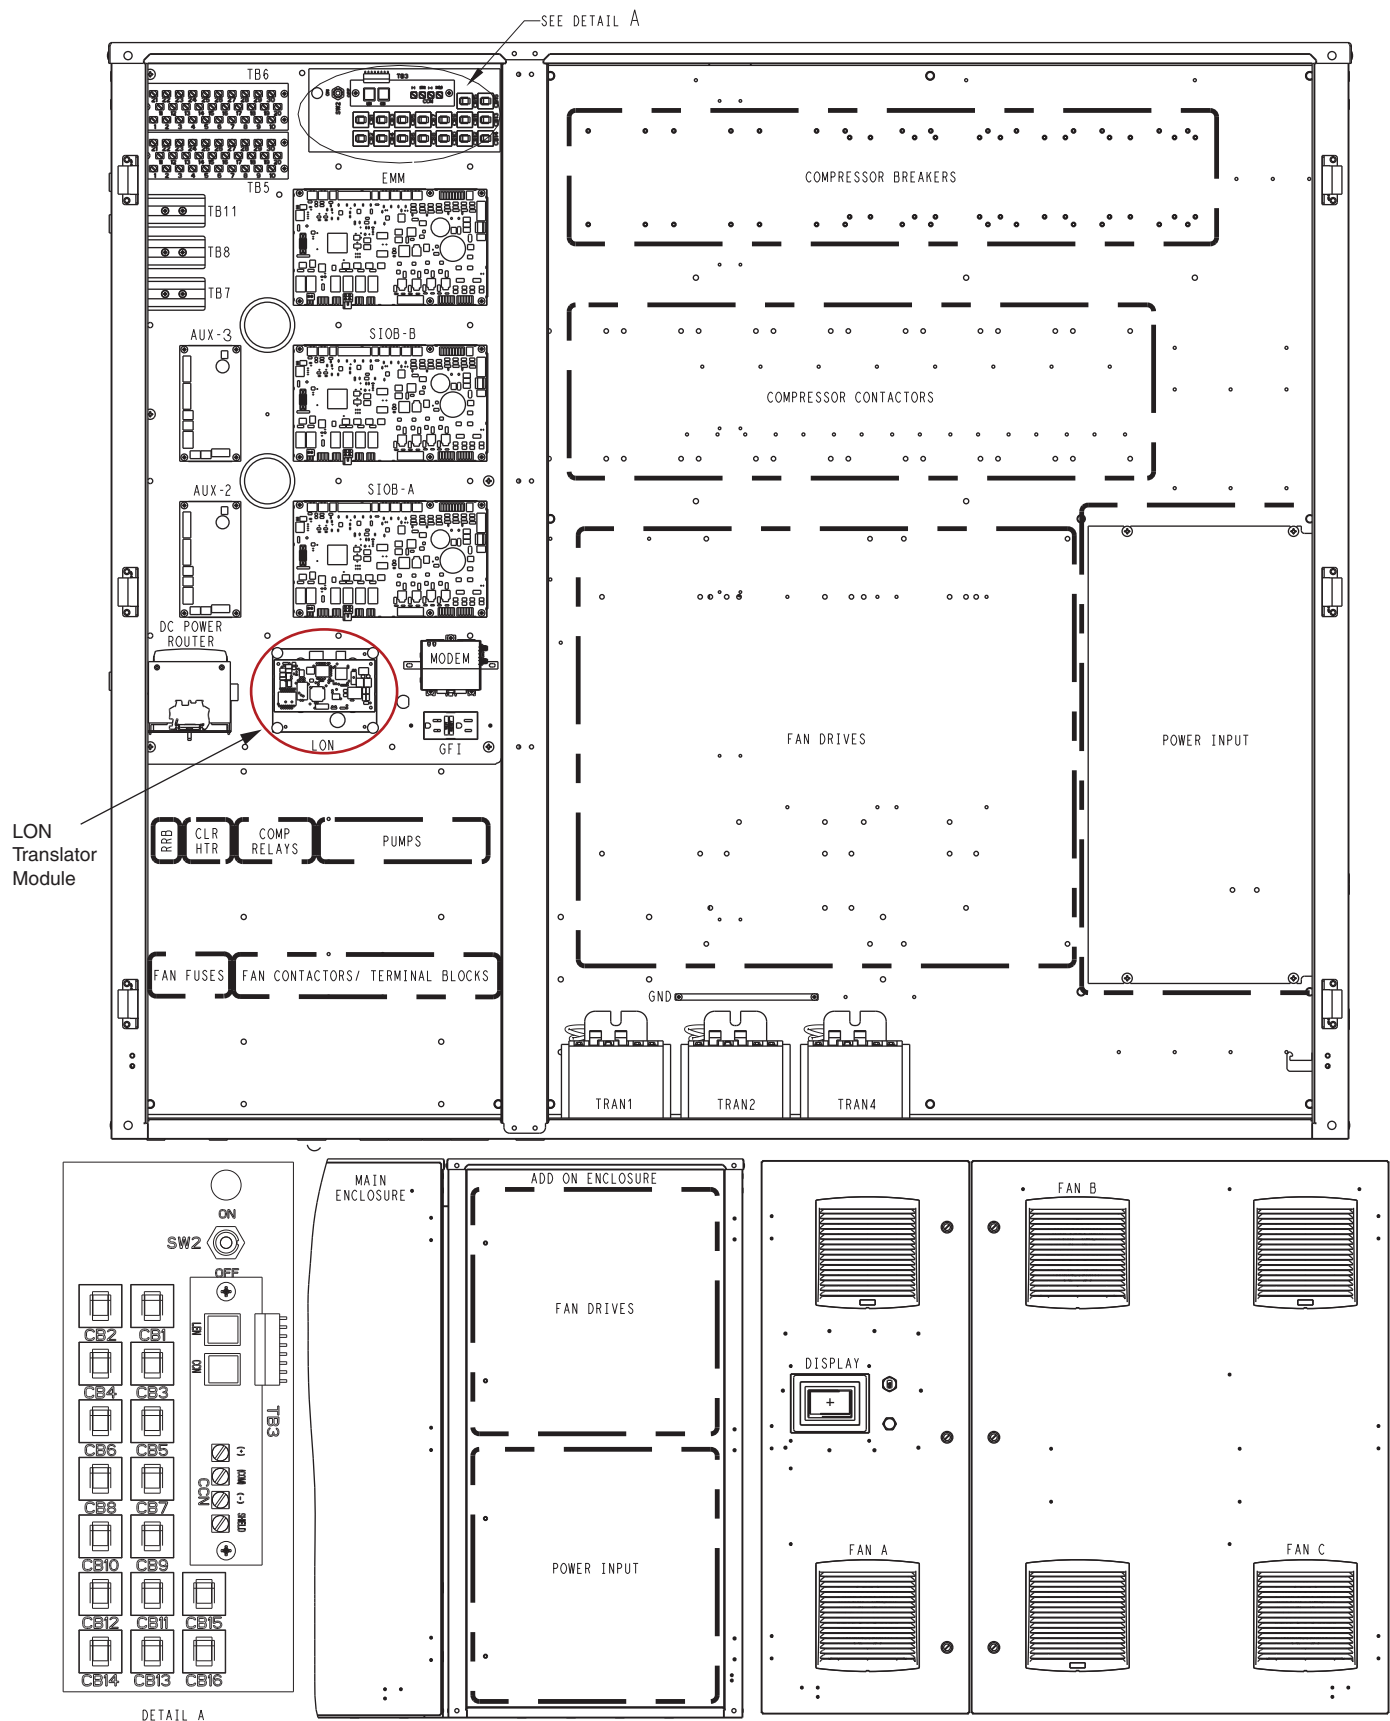

Fig. 2 — Translator Module Installation Location for 30RC065-252 Large Main Control Box
4. Install the LonWorks Carrier Translator module in the location shown in Fig. 2 or 3 by using screws (Item #2).
10. Connect the other end of the cable which has 3 wires labeled TB3 CCN(+), TB3 CCN(COM) and TB3 CCN(-) to the corresponding terminals on TB3. See Detail A in Fig. 2 or 3 for location of TB3.